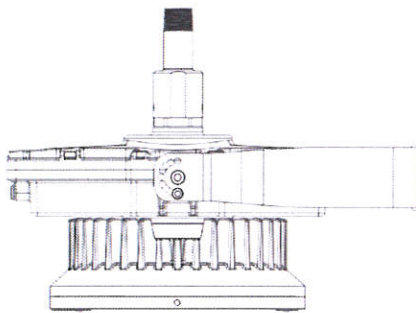

Figure 1
- ☞ Position the bracket holders and secured to mounting surface by means of the provided M8 and M6 screws, Torque value M8=61.0 kgf-cm ,M6=24.5 kgf-cm. (Figures 1 and 2)